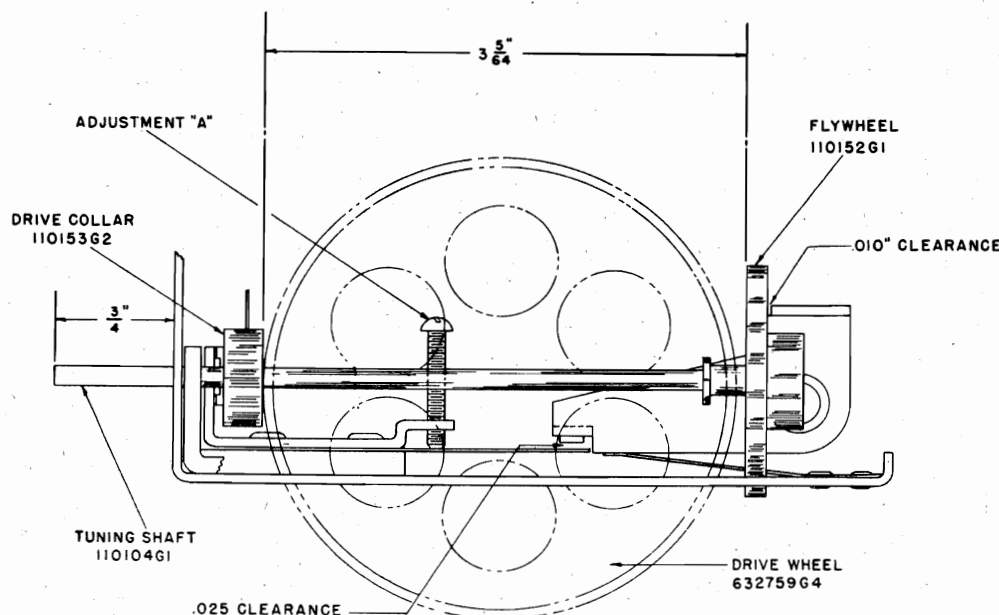
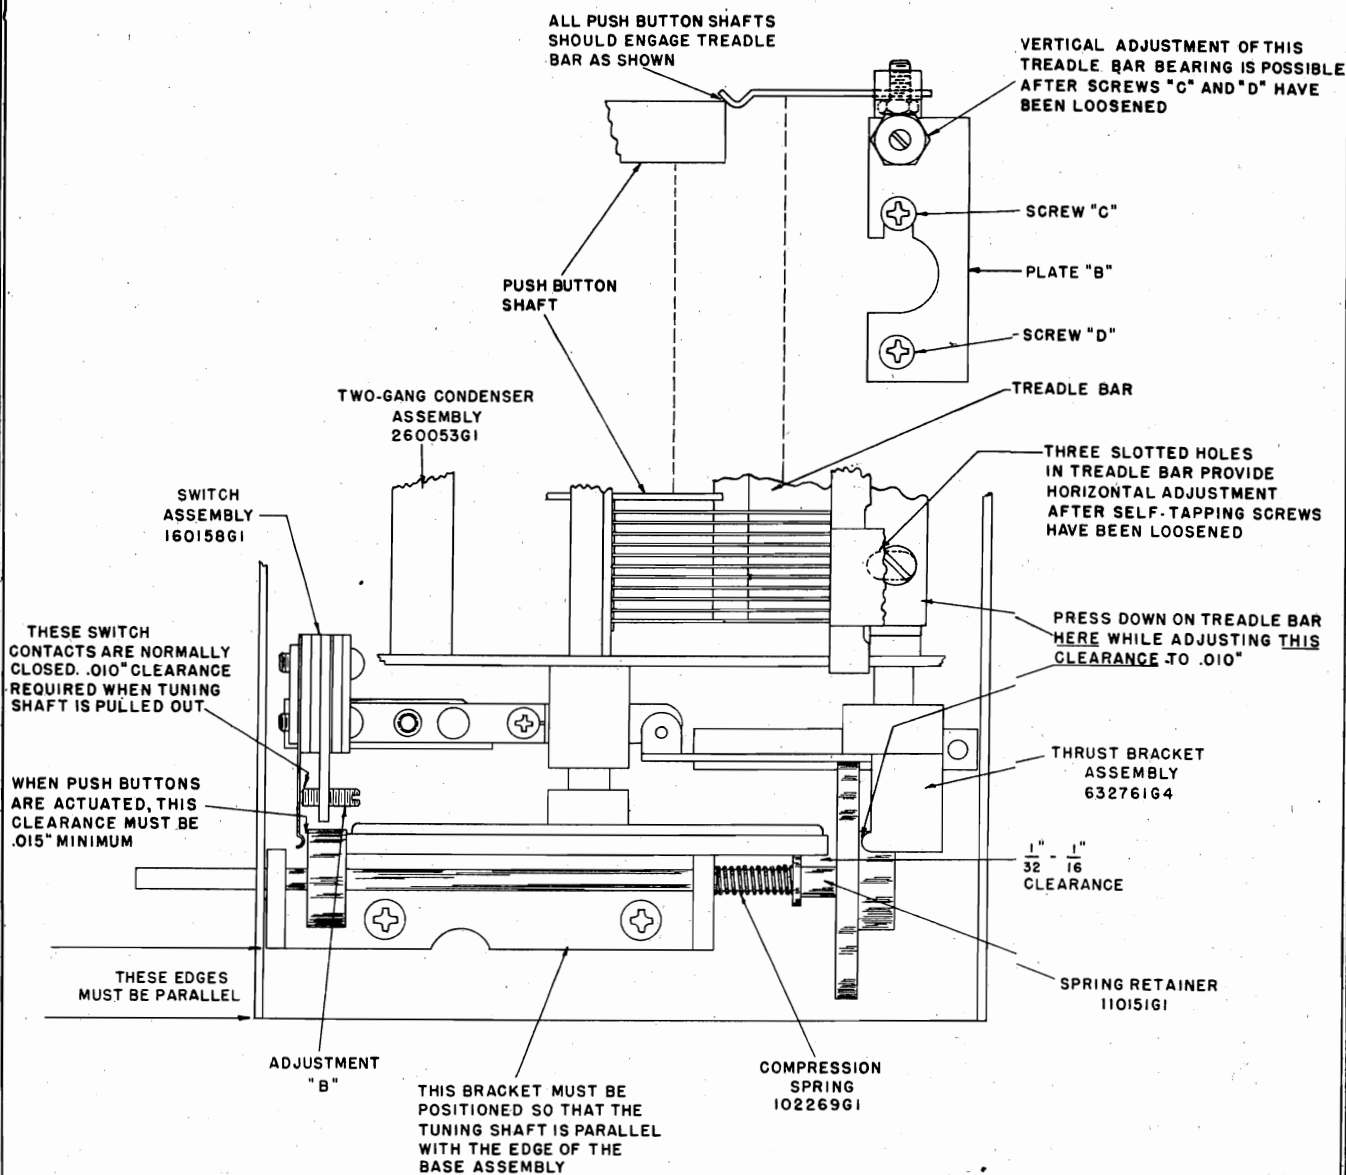

FIGURE 2
FIGURE 3
Whenever any of the mechanical parts in the condenser gang drive assembly require replacement due to rough handling or for any other reason, it is extremely important that clearances and adjustments shown on Figures 2 and 3 are affected; otherwise the tuning mechanism will be sluggish or it may slip during operation.
1. Assemble the Tuning Shaft, Drive Collar, Compression Spring, Spring Retainer and Flywheel in the manner shown on Figure 3. The Tuning Shaft must extend $\frac{3}{4}$ " from the front of the assembly and that the spacing between the rear of the Drive Collar and the front of the Flywheel must be $3\frac{5}{64}$ " as specified on Figure 2. Any excess length in the Tuning Shaft may extend beyond the rear of the Flywheel.
2. The distance between the rubber-tired Drive Wheel and the smaller diameter section of the Spring Retainer must be $\frac{1}{32}$ " to $\frac{1}{16}$ ". This adjustment is effected by loosening the two No. 6 Allen set screws in the Drive Wheel hub and sliding the wheel on its shaft until the required clearance is obtained. When the adjustment is completed, tighten the two screws in the hub of the Drive Wheel. See Figure 3.
3. While pressing down on the Treadle Bar at the location shown on Figure 3, adjust the Thrust Bracket until the clearance between the rest of the Flywheel and the projection on the Thrust Bracket is .010" as shown on the diagram. To make this adjustment, loosen the two No. 6 Allen set screws (use No. 6 Allen Wrench—Magnavox Part No. 800044G2) in the hub of Thrust Bracket and rotate the bracket until the specified clearance is obtained when the push buttons are NOT actuated. Tighten the two screws securely when the adjustment is completed. Press each push button and check that the Drive Collar is pushed away from the rubber-tired Drive Wheel.
4. Next, adjust the clearance in the muting switch contacts by turning the Phillips-head screw designated Adjustment "A" on Figure 2, until the specified clearance of .025" is obtained (when the push buttons are NOT actuated.)
5. While pressing any one of the push buttons in as far as possible, turn the screw designated Adjustment "B" (Figure 3) until a minimum clearance of .015" is obtained between the front surface of the Drive Collar and the switch spring directly in front of it. This setting should also cause a minimum clearance of .010" between the switch contacts actuated
This can usually be accomplished by loosening the two screws designated "C" and "D" on Figure 3, and moving plate "B" in the direction required to correct this condition.